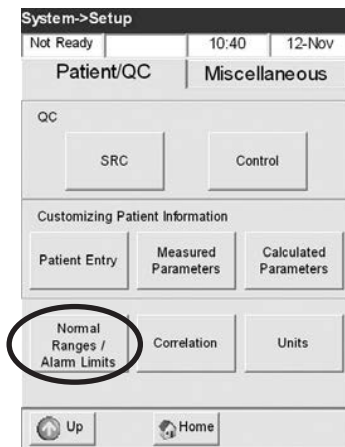

Fig. 3-21 Select Normal Ranges
2. In the **<System Setup>** menu, press **<Normal Ranges/Alarm Limits>** (Fig. 3-21).